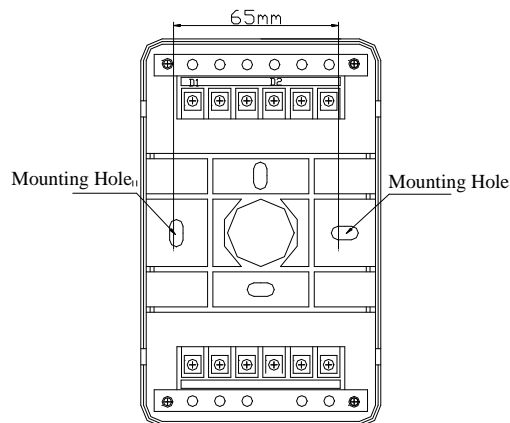

Fig. 4 C-9401 Base box
4. The base box of C-9401 is shown in Fig. 4, please note direction when installing.